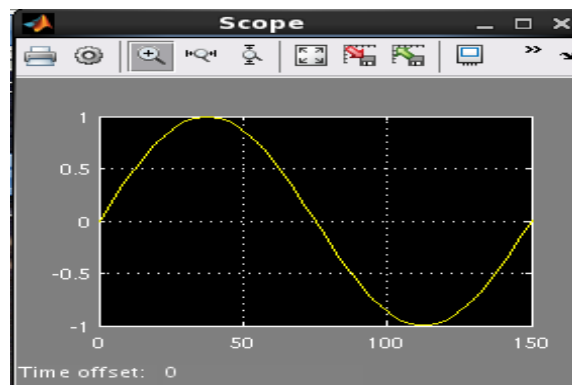

Figure 11: Scope block showing the simulation results.
11. To run the simulation, select **Simulation -> Run** from the Simulink Model window. The Scope block will be updated to show the simulation results (one period of the sine wave). To autoscale the y-axis of the Scope block, select the Autoscale icon (the 6th from the left). The y-axis will be scaled so that the waveform occupies the whole display as shown in Figure 11.